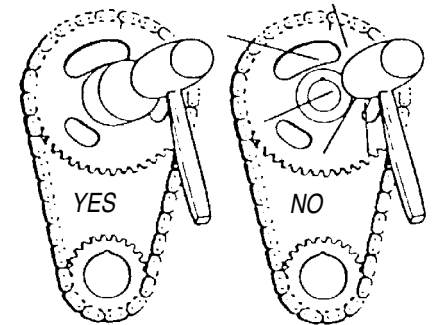

Figure 1 - Use a sleeve to install press-fit sprockets
- **USE A SLEEVE** for installations that require hammering (see Fig. 1). A brass drift punch may be used if you carefully alternate blows on either side of the sprocket to avoid cocking.